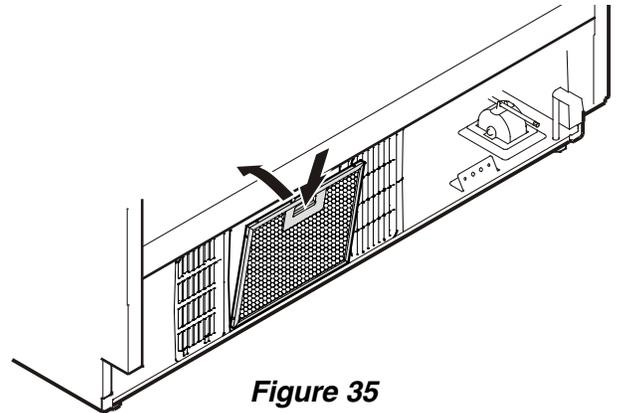

Figure 35
Mounting the Ventilation Grille - Figure 35, 36
2. Remove the blue protection film from the dust filter provided and insert the filter into its opening in the toe kick area as shown in **Figure 35**. Engage the filter at the bottom, press down the button and click into place.